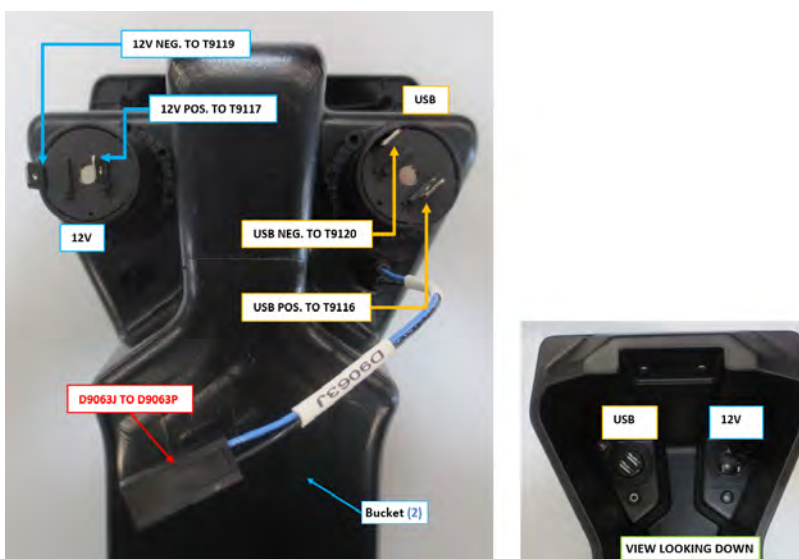

FIGURE 8-6
1. Connect electrical connections as follows, refer to Figure 8-6: